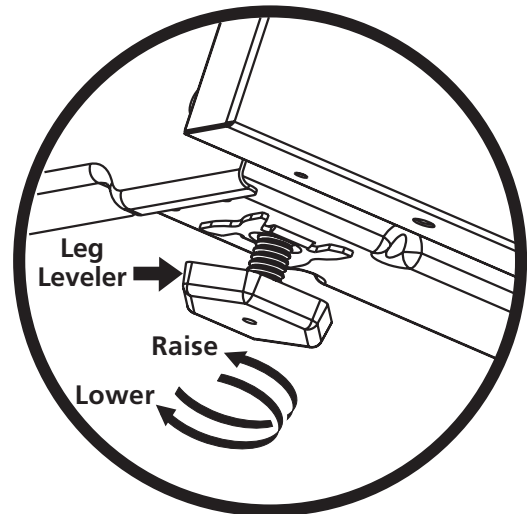

Figure 12
2. Place a level on the rack. Take 2 readings with the level placed diagonally in one direction and then the other. Level the range, if necessary, by adjusting the 4 leg levelers with a wrench (see Figure 12).